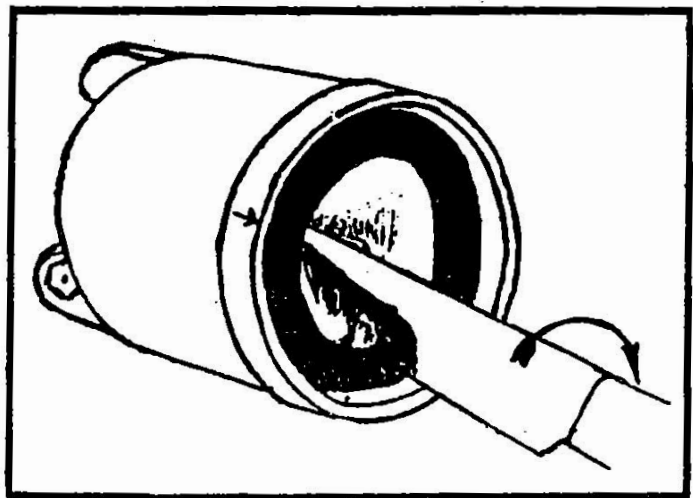

Fig.3.15
4. Remove sludge collected in rotor cover by using steel strip or blade. Clean all rotor inner parts in kerosene/diesel or similar such detergent. Blow with compressed air, nozzles fitted on top of rotor cover. Check the condition of rubber rings in housing and rotor for cuts/damages. Replace the rubber rings if required (Fig.3-15).